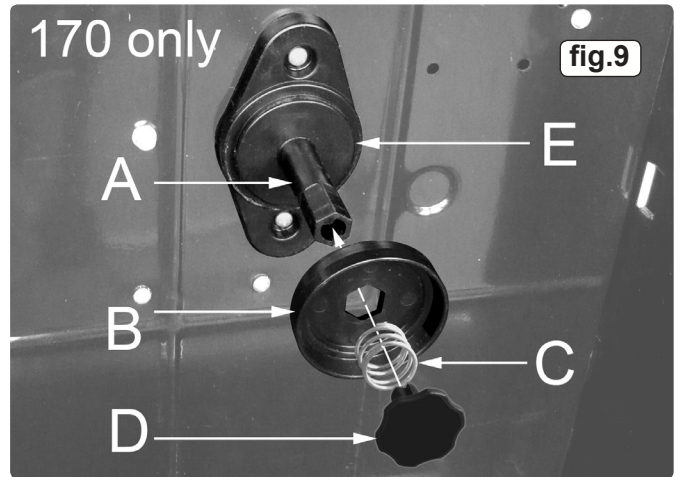

fig.9
3.8.1 Remove the retaining knob (D) from the end of the spindle (A) by turning the knob 90° anticlockwise and pulling it outwards (see fig.9). Remove the spring (C) and the retaining disc (B) from the end of the spindle also. Slide the reel of wire over the spindle and hold it against the back plate so that the hole in the reel rests on the flange (E). Ensure that the wire is coming off the top of the reel in the direction of the wire drive unit as shown in fig.10.